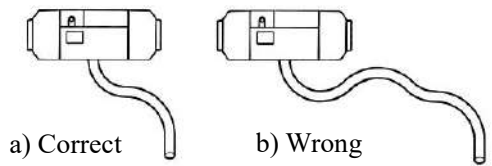

Fig.24
4.6.3 Both the air inlet pipe and exhaust pipe shall come outwards and downwards from the heater (Fig. 24), otherwise a $\Phi 4\text{mm}$ hole shall be prepared at the bottom of the pipe for discharge of condensation water.